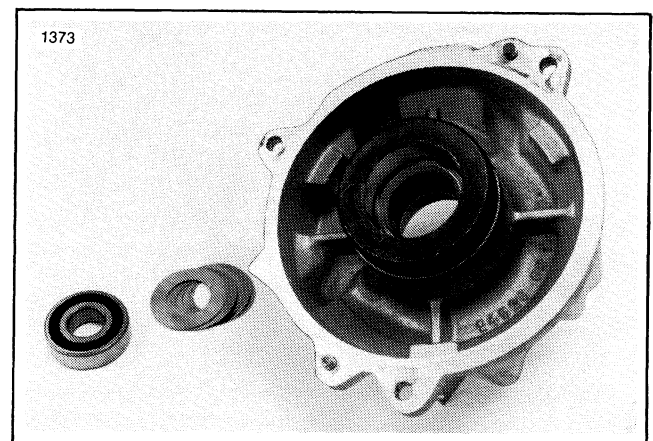

Figure 5-31. Install Shims And New Outer Bearing
7. See Figure 5-31. Press a new inner bearing into the case and install a new oil seal so the lip side of the seal faces to the inside of the case. Press bearing in until it rests against spacer.